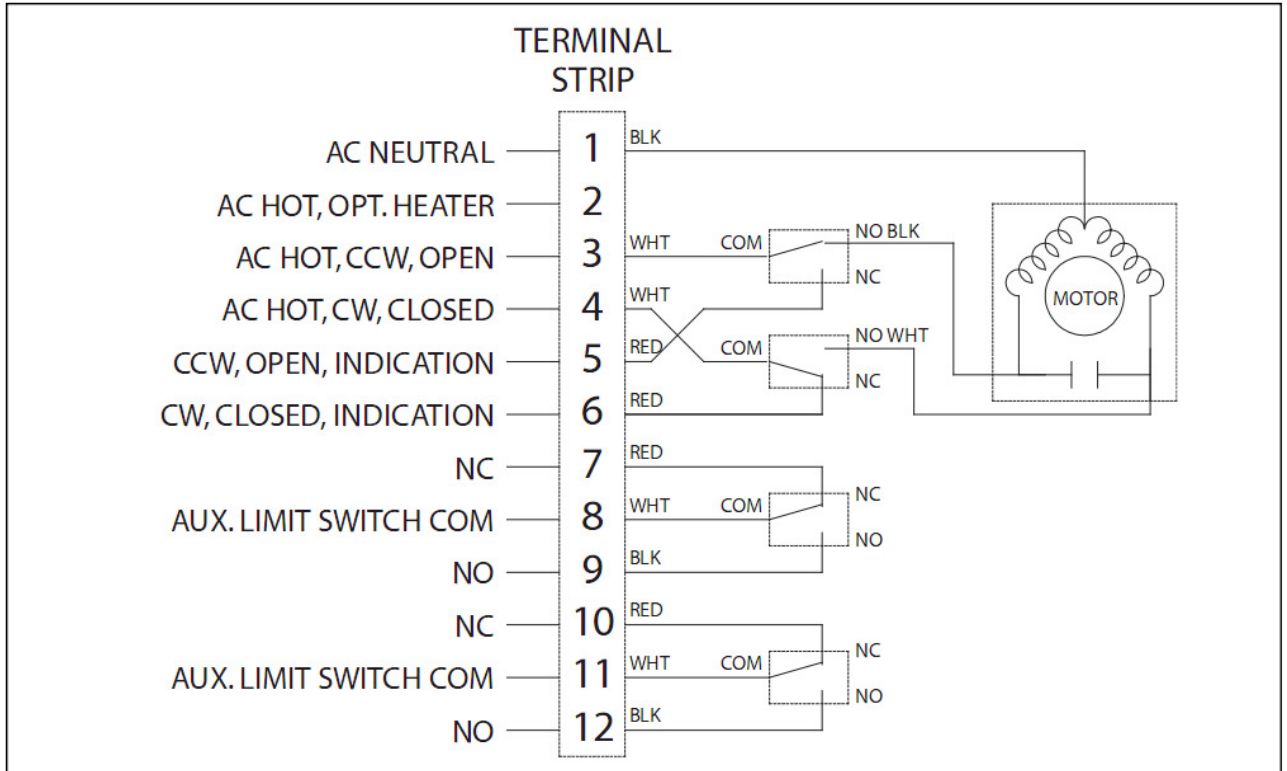

Figure 3A LUF Series AC Wiring
The identification label on each actuator specifies the voltage and current requirements for the actuator. For convenience, Figures 3A and 3B show the standard power and control wiring connections for the actuator. The terminal strip is numbered from the bottom to the top.
- 2 Apply power to terminals 1 and 3 (See Figures 3A and 3B) to drive the actuator to the open position (clockwise rotation).
- 2 Apply power to terminals 1 and 4 (See Figures 3A and 3B) to drive the actuator to the closed position (clockwise rotation).